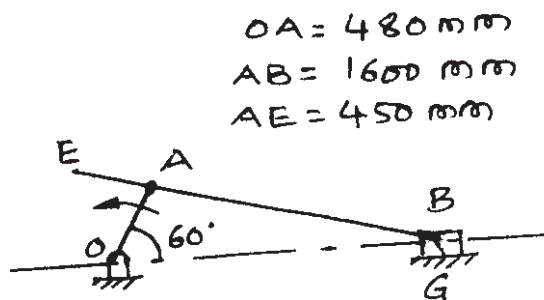

Fig. 1
b) For the configuration of mechanism shown in Fig. 1. Calculate : [12]